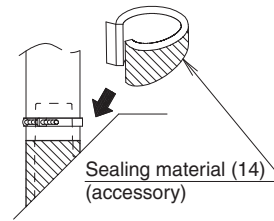
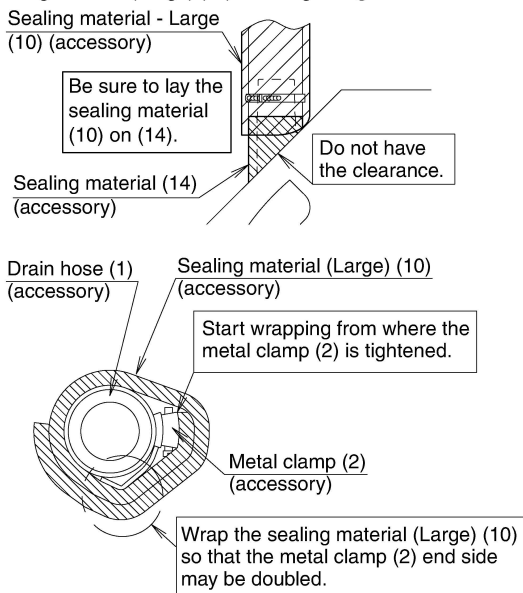

Fig. 20
Fig. 22
- After checking the drainage of water, refer to Fig. 20 and attach the sealing material (14) to perform the thermal insulation of the drain socket.
After checking the drainage of water, refer to **Fig. 20** and attach the sealing material (14) to perform the thermal insulation of the drain socket.
(3) Sweating may occur and result in water leakage. Therefore, make sure to insulate the indoor drain piping and socket locations.
After drainage is checked, put the attached sealing material (14) referring to **Fig. 20**, and insulate the drain hose (1) and the metal clamp (2) with the attached sealing material (Large) (10) referring to **Fig. 22**.